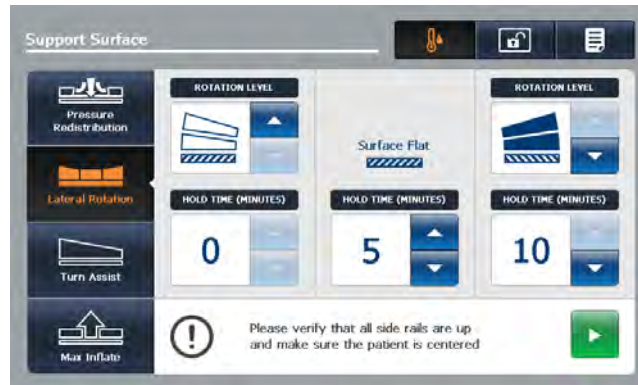

Figure 55: Starting a one-sided Lateral Rotation
2. Tap **Up** on the opposite side to the desired angle (Figure 55 on page 65).
3. Set the desired hold time (Figure 55 on page 65).